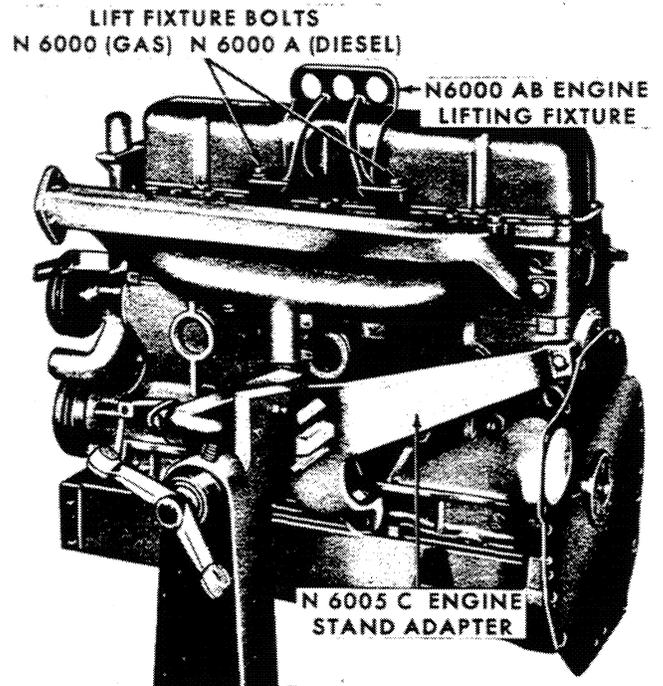

Figure 2
38. Remove the manifold heat baffle and fire wall and attach the N-6000-AB Engine Lifting Fixture as shown in Figure 2, using two N-6000-A (Diesel) or two N-6000 (Gas) hex head bolts. Attach the lifting fixture to a suitable hoist and apply a very slight lifting pressure.
43. Move the engine forward and up to the left, out of position. Mount the engine on an engine stand, as shown in Figure 2.